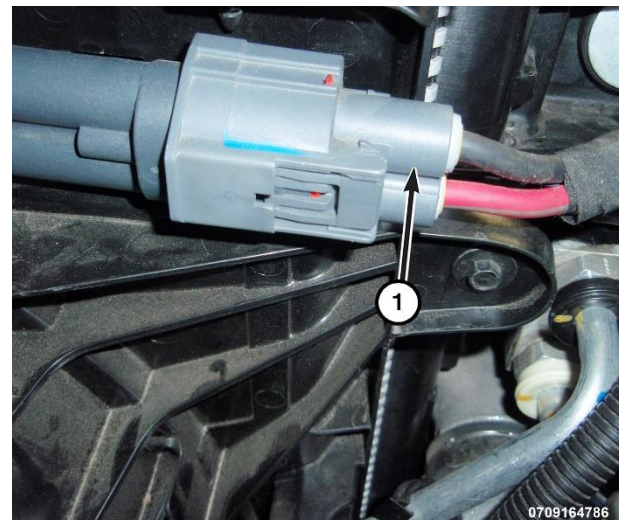

Figure 177 – Fan Electrical Connector
7. Disconnect the cooling fan wire harness connectors and detach the wire harness connector from fan shroud (1) (Figure 177).